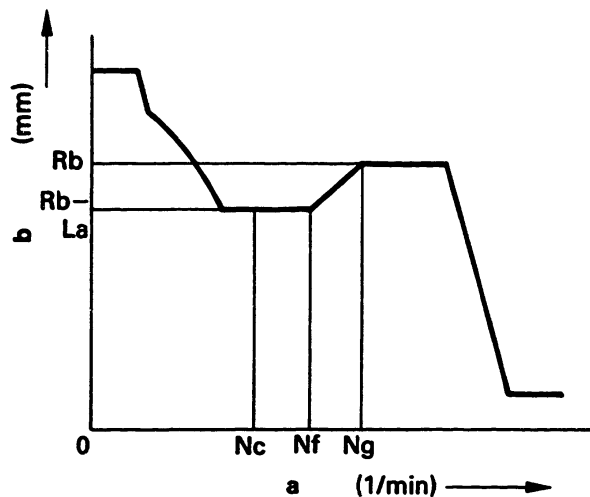

Fig. 91 Torque control range
4. Raise pump speed to "Nf" and ensure that control rack commences to travel in the "fuel-increase" direction. If not to specification adjust the control rack position with the torque control spring assembly cap and nut. (Figs. 91 and 92)
5. Confirm that "Ng" rpm represents the pump speed when the torque control spring stops moving at control rack position "Rb" mm. (Fig. 91)